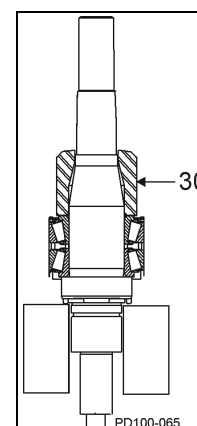

Figure 50 - Install Bearing Spacer
9. Install bearing spacer (Figure 50, item 30).